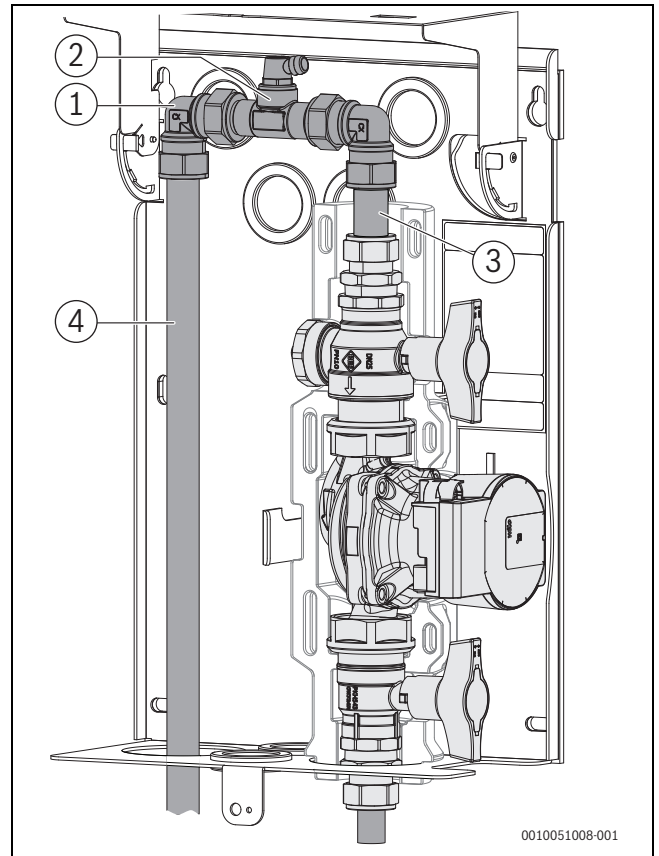

Fig. 21 Establishing the hydraulic connection (U-shaped) (option 2, hybrid manager and mounting bracket not shown)
- ▶ Mount the Ø 22 mm elbow clamping ring fitting and the pipe connector from the scope of delivery on the pump line (→Fig. 21).
- ▶ Provide connector pipe (→Fig. 21, [4]) with thermal insulation in accordance with local regulations.